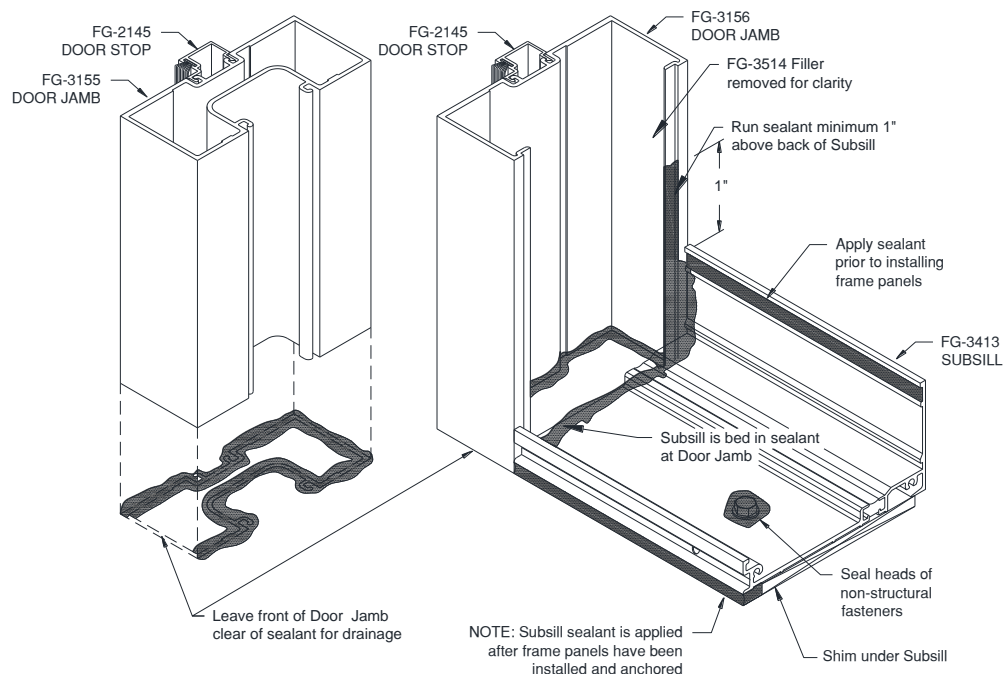

Figure 17: Door Jamb and Subsill Sealant Application at ArmorDefend™
- 5.2 Just prior to installing the Door Frame, apply sealant to the Threshold and Door Jamb, if using **FG-3155** Door Jamb. At Threshold, fill the front and back of the underside of the Threshold with sealant, as shown in *Figure 16*. At **FG-3155** Door Jamb, apply sealant at sides and back of Door Jamb, leaving the front edge clear, just prior to installing Door Frame; reference *Figure 17*.
- 5.10 For Frames with **FG-3156** Door Jambs, once door is square and anchored, seal the base of Door Frame to substrate at sides and interior-side of Door Jamb to prevent water leakage. See illustration in *Figure 17* for sealant locations.
- 6.2 Seal the inside of the Door Jamb to the substrate per *Figure 17*, leaving the front face unsealed for drainage.
- 6.4 Set the sidelite Sill Receptor in a bed of sealant and butt Sill Receptor tight to Door Jamb, as shown in *Figure 17*.